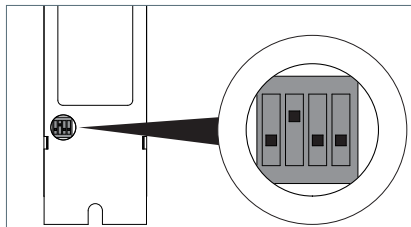

Fig. 30: DIP switch position for the Simple Group Control function
- ▶ Set the DIP switch no. 2 to the "ON" position, see Fig. 30.